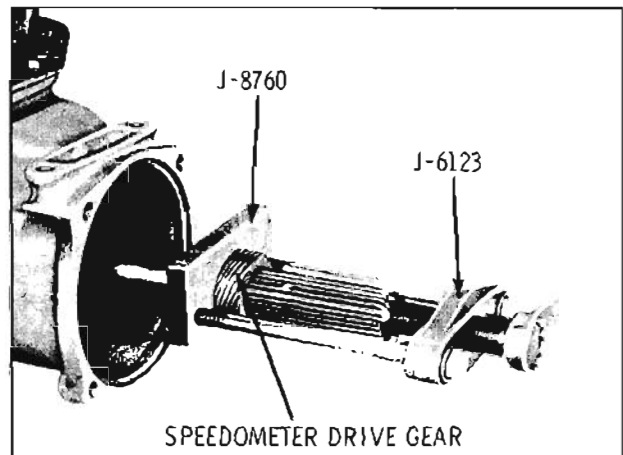

Fig. 6-281 Removing Speedometer Drive Gear
1. Place transmission in "P" range, then remove speedometer driving gear with J-6123. (Fig. 6-281)